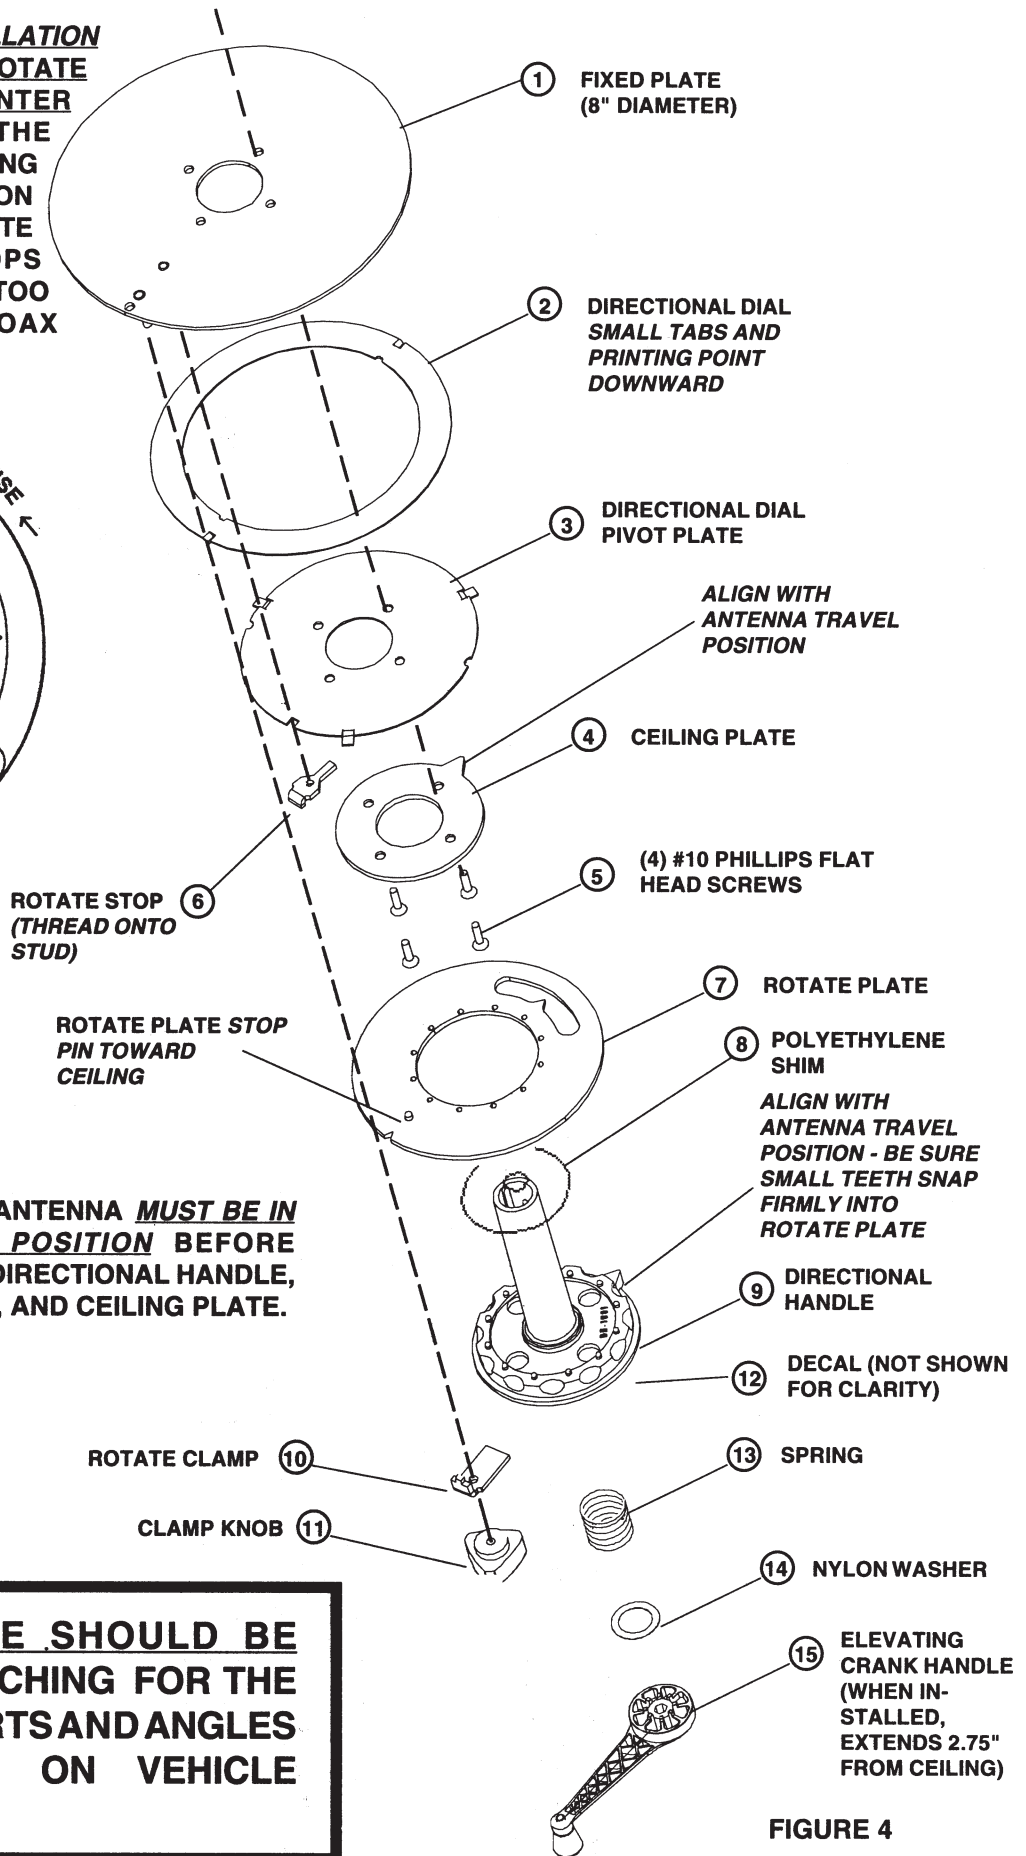

FIGURE 4
STEP 9: Assemble ceiling plates, directional handle and crank handle as shown in Figure 4. The circled numbers indicates placement from the ceiling down. Example: The ceiling plate is located next to the ceiling. The elevation crank handle is farthest from the ceiling. The number also indicates sequence of assembly.